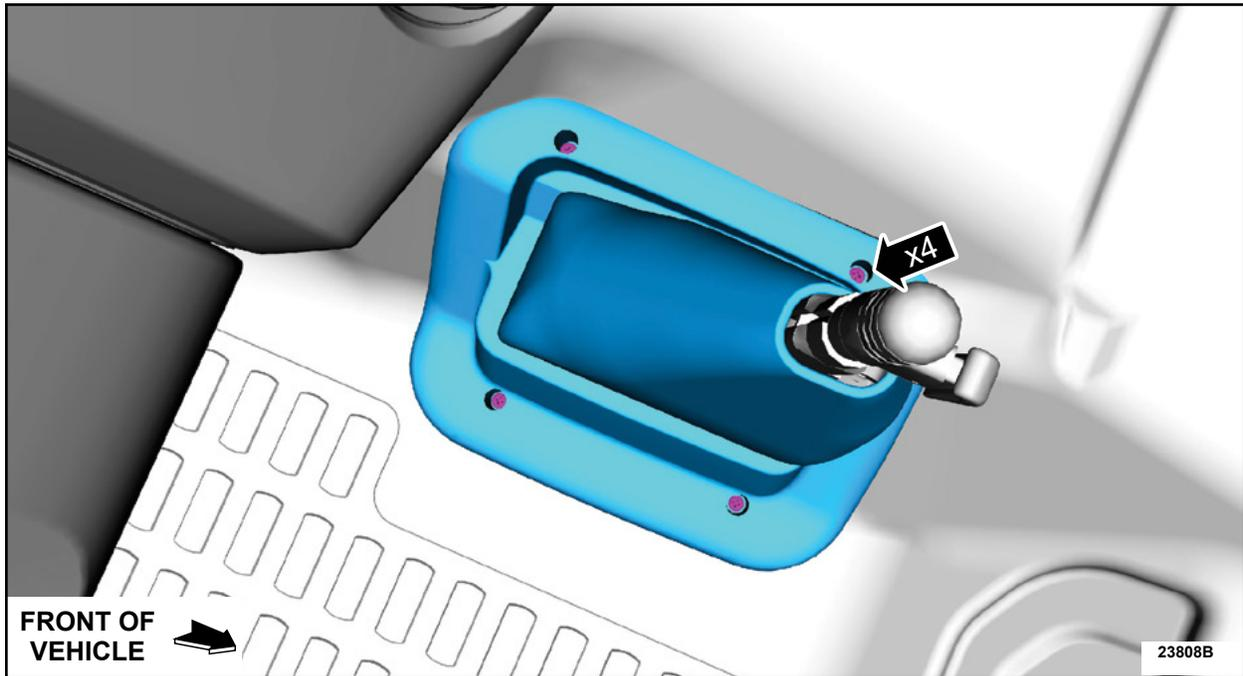

FIGURE 2
2. Remove the screws and remove the manual parking lever boot while holding the manual parking brake lever release button down. See Figure 2.